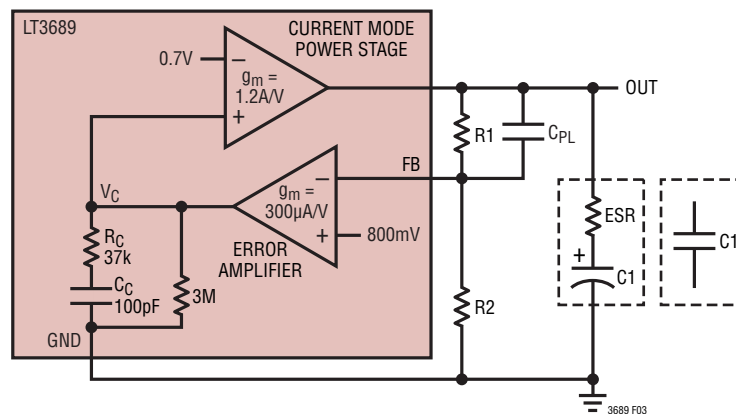

Figure 3. Model for the Loop Response
The LT3689 uses current mode control to regulate the output, which simplifies loop compensation. In particular, the LT3689 does not require the ESR of the output capacitor for stability, allowing the use of ceramic capacitors to achieve low output ripple and small circuit size. Figure 3 shows an equivalent circuit for the LT3689 control loop. The error amp is a transconductance amplifier with finite output impedance. The power section, consisting of the modulator, power switch and inductor, is modeled as a transconductance amplifier generating an output current proportional to the voltage at the VC node. Note that the output capacitor, C1, integrates this current, and that the capacitor on the VC node (CC) integrates the error amplifier output current, resulting in two poles in the loop. RC provides a zero. With the recommended output capacitor, the loop crossover occurs above the RCCC zero. This simple model works well as long as the value of the inductor is not too high and the loop crossover frequency is much lower than the switching frequency. With a larger ceramic capacitor (very low ESR), crossover may be lower and a phase lead capacitor (CPL) across the feedback divider may improve the phase margin and transient response. Large electrolytic capacitors may have an ESR large enough to create an additional zero, and the phase lead may not be necessary.